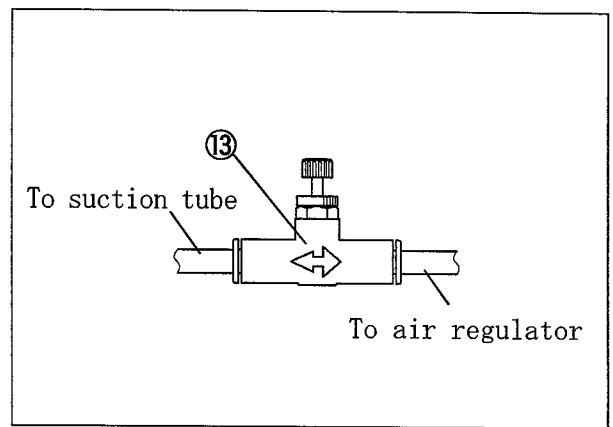
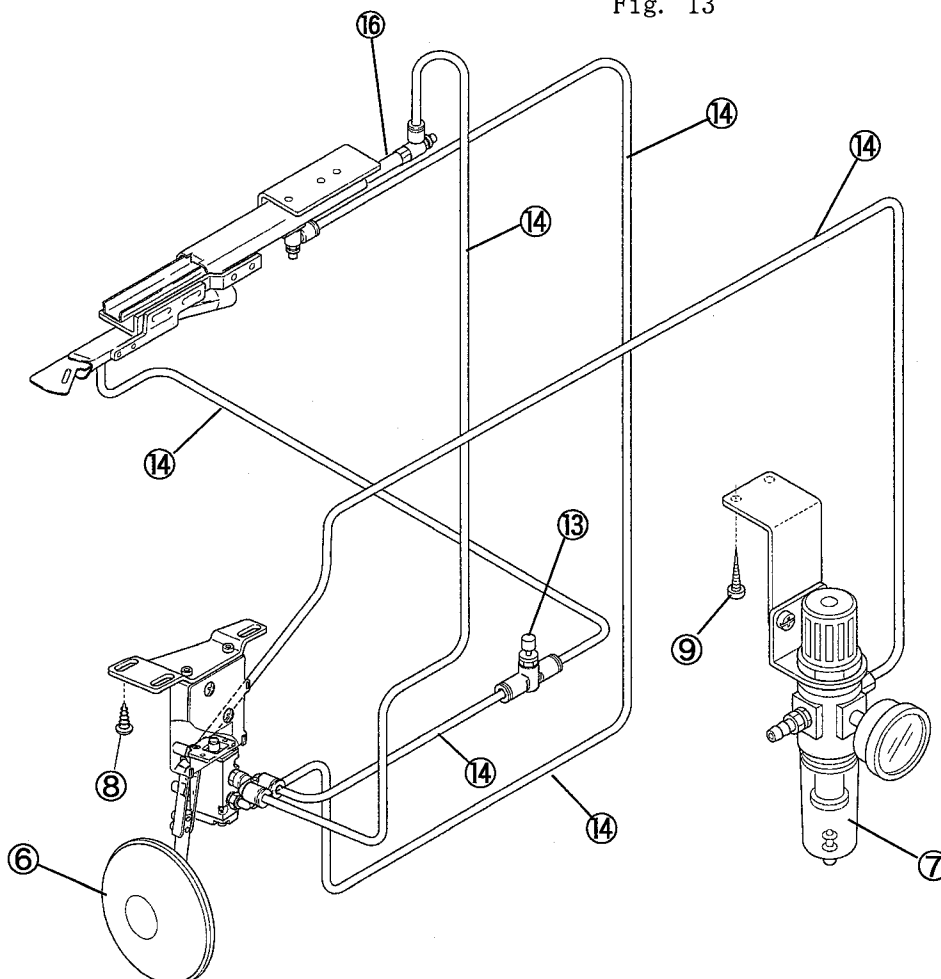

Fig. 12
Fig. 14
- (1) Set the device ④ horizontally to the machine frame with two screws ⑤.
- (2) Set the toggle switch ⑥ with two screws ⑧ and air regulator ⑦ with two screws ⑨ under the machine table. (Fig. 14)
- (4) Connect the air pipe ⑭ referring to Fig. 14. Check the in-line speed controller ⑬ is set correctly. (Fig. 12)